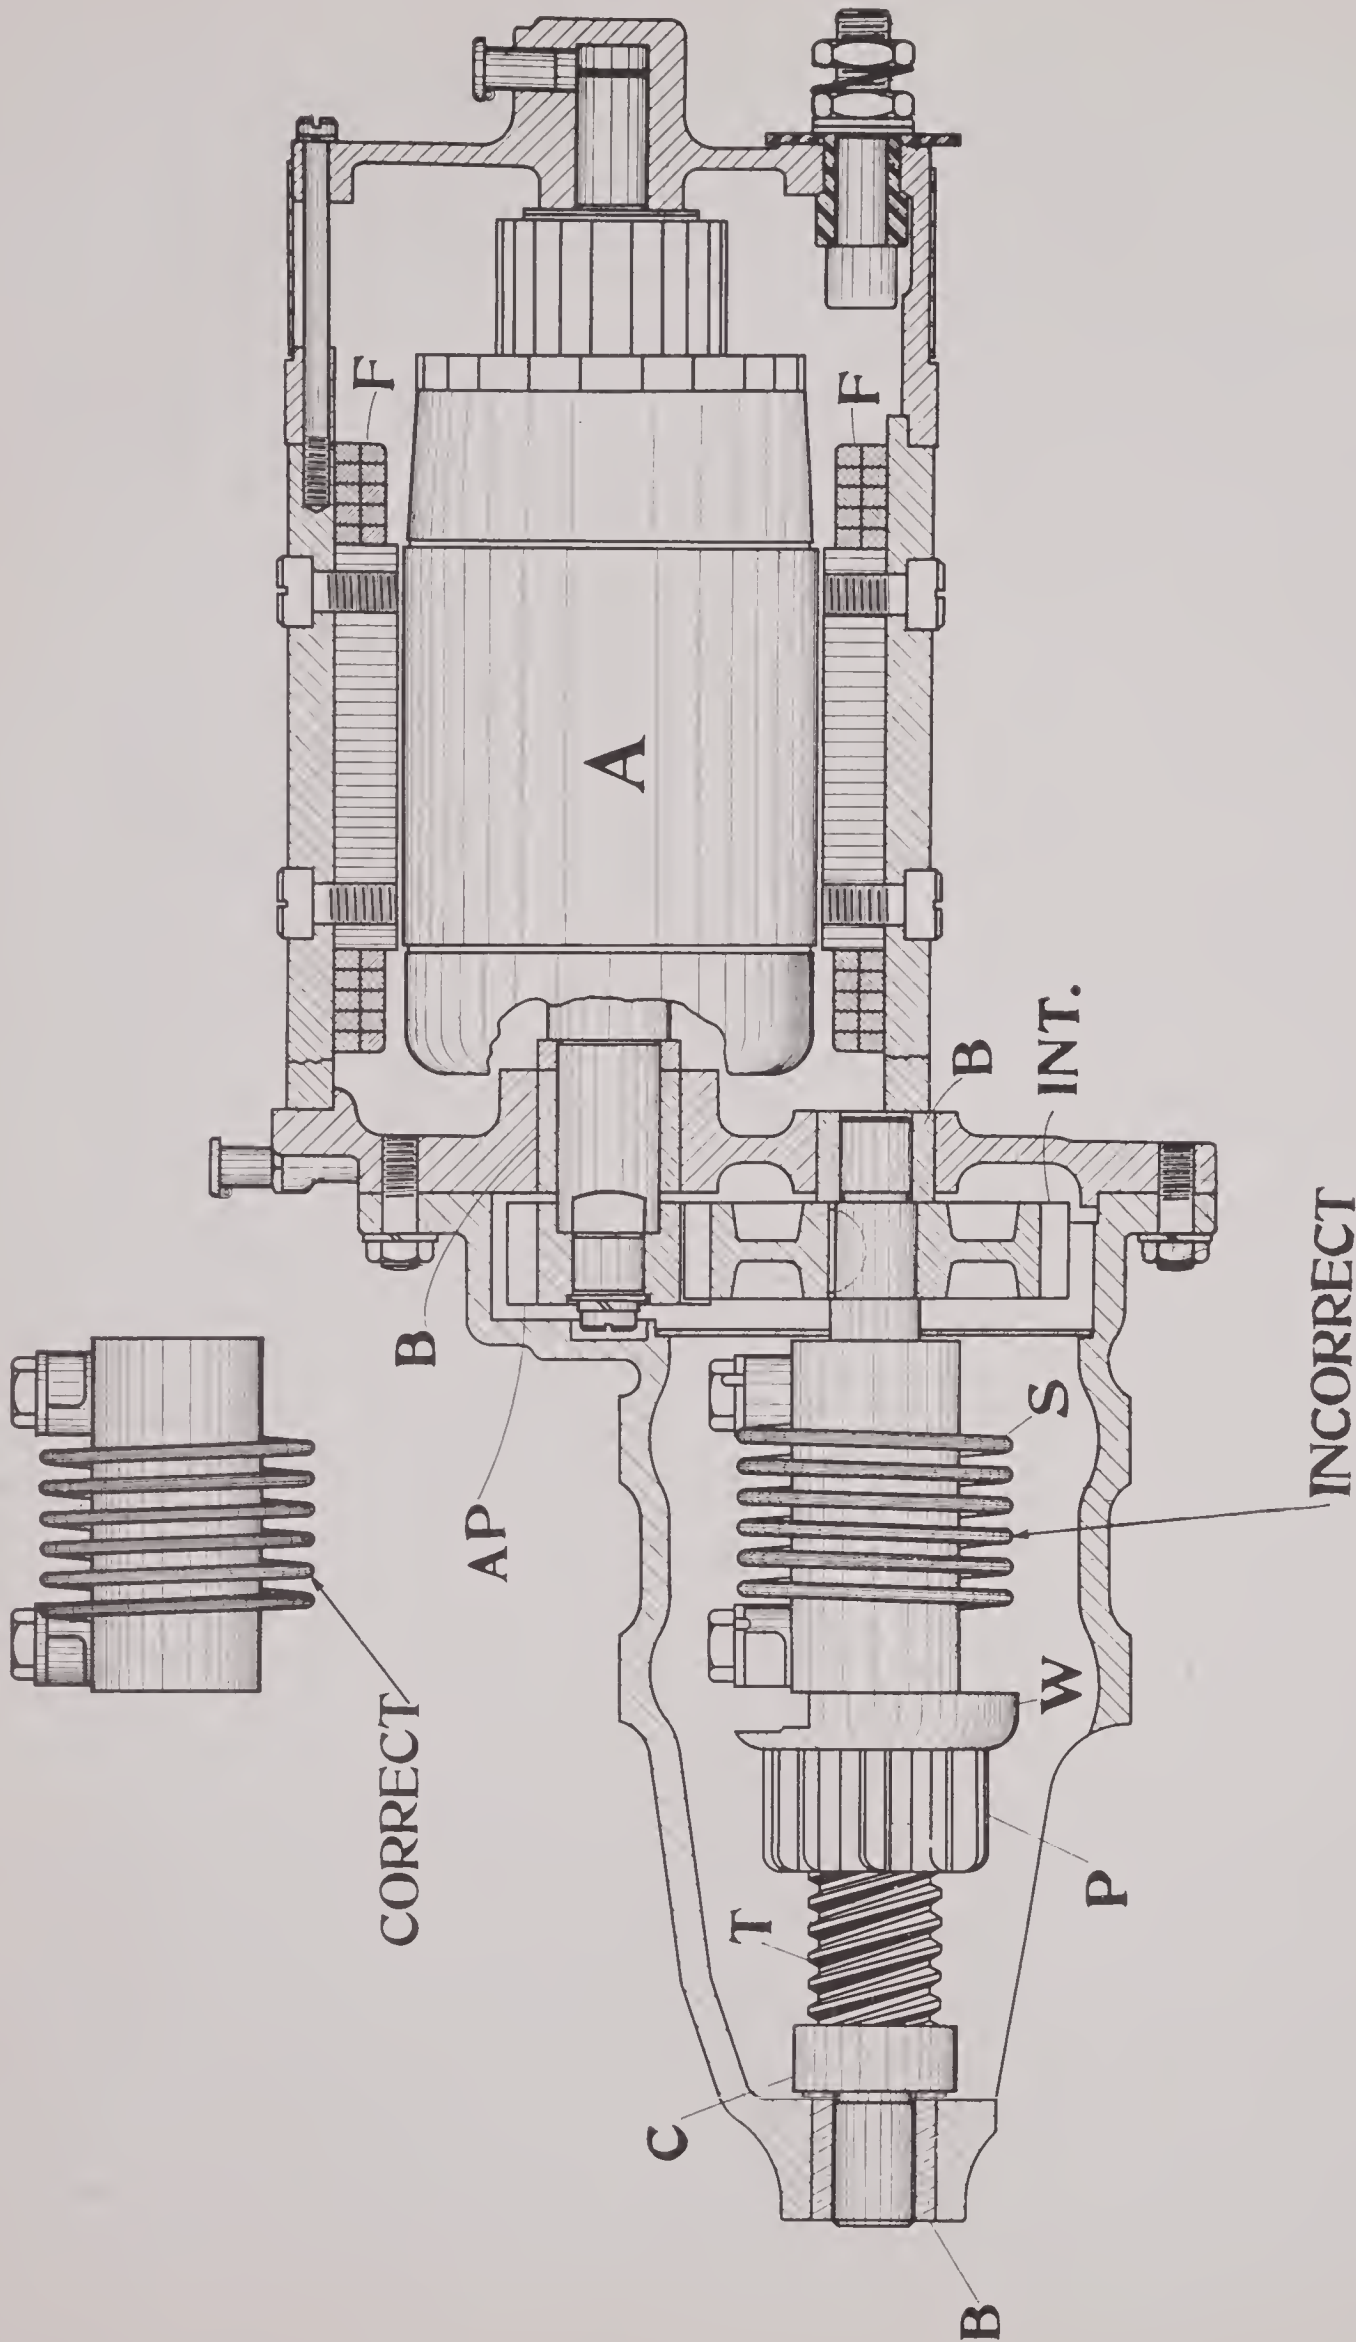

FIG. 294
Fig. 294 shows the Bendix drive. The pinion (P) is not keyed on the armature shaft but is carried on a heavy screw (T) which is mounted on the armature shaft or an intermediate shaft. When the starting switch is closed, by pressing the starting pedal, the motor starts very quickly. The pinion being heavy and weighted will not start to turn immediately but slips along the screw as the screw starts with the armature. The screw turning in the pinion pushes it along far enough to mesh with the gear on the flywheel. As the pinion meshes with the flywheel gear, it turns against the thrust collar at the end of the screw, which causes it to turn with the shaft, and so drive the engine. When the engine starts, it drives the pinion faster than the screw turns. The pinion overrunning the screw, is thrown back to the neutral position. When the starting pedal is released a spring opens the switch and the motor stops. The pinion is usually weighted on one side so it will not turn on the screw while the engine is running and be thrown against the gear on the flywheel causing a clattering noise. If there is mud or gum on the Bendix, the pinion will not slip on the screw, so the gears will not be brought into mesh when the motor starts.
A heavy strain is thrown on the gears just as the pinion turns against the thrust collar at the end of the screw, which is likely to strip the gear on the flywheel. This "jerk" is partly absorbed by the heavy Bendix spring through which the motor drives the screw. The Bendix spring should be coiled with the lay of the screw or the strain will break it. (See Fig. 294 for correct and incorrect springs.) Instead of using the Bendix spring, some manufacturers use a friction clutch. The clutch discs are held together with a spring, and the side thrust of the screw on the Bendix. The clutch slips enough at the start to prevent the "jerk" from breaking teeth out of the gear.